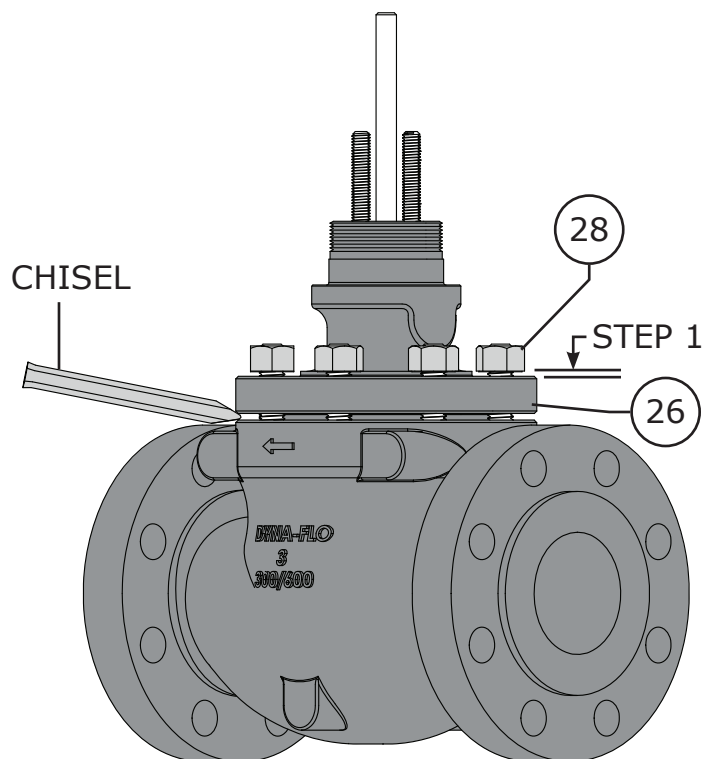

Figure 7 Bonnet Removal (Steps 1 - 2)
- 1 Loosen the bonnet nuts (Key 28) 1 full turn after the contact between the nuts and the top surface of the bonnet (Key 26) has been broken. Do not remove the bonnet nuts until any trapped process pressure has been vented. Refer to Figure 7.